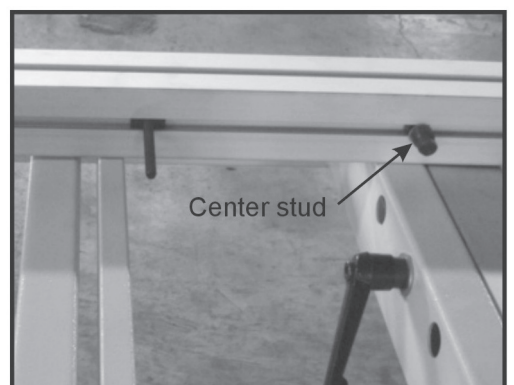

Fig. 18
2. Sliding the center stud, an M8-1.25 x 60 T-bolt and screw M8-1.25 x 25 knob into the crosscut fence (Fig. 18)